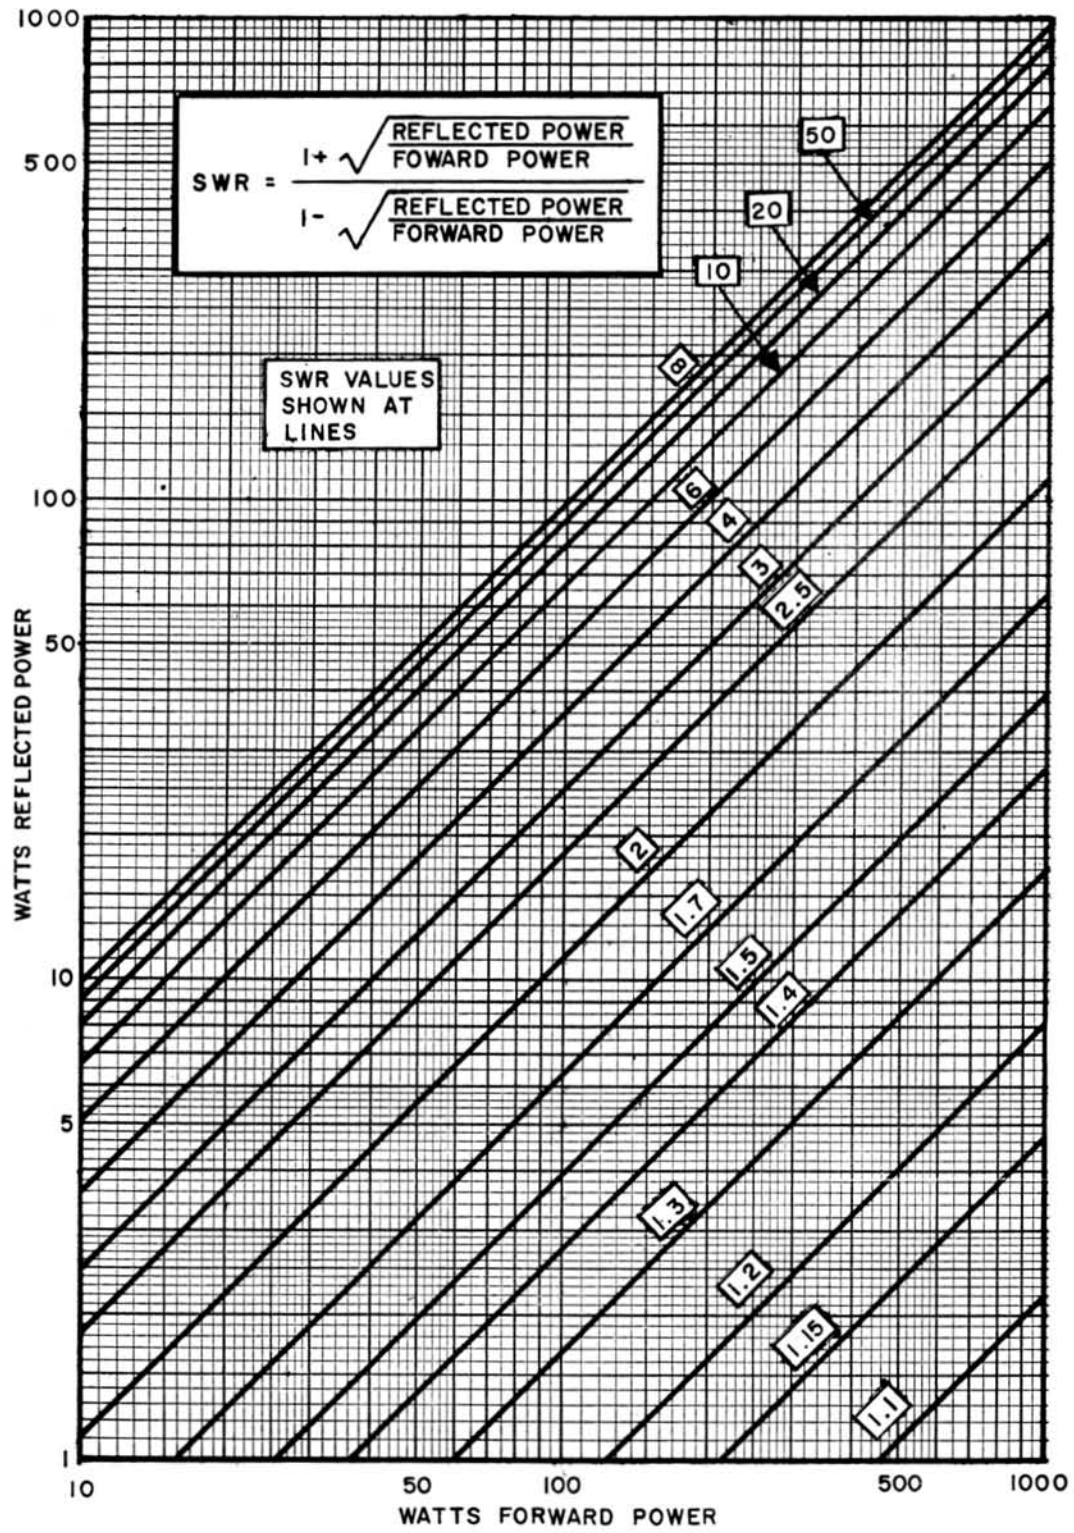

Figure 5. VSWR Chart
d. Switch to the REFLECTED 2000 scale. Unless the antenna or load is perfectly matched (52 ohms, resistive), the meter will indicate reflected power. The reflected power indication will always be less than the forward power indication. If the indication is less than 200 watts, switch to the REFLECTED 200 scale. Record the indication. Use the recorded indications and figure 5 to determine vswr. To use the vswr chart of figure 5, multiply the WATTS REFLECTED POWER along the left side and the WATTS FORWARD POWER along the bottom by a factor of 10. The swr values on the lines remain the same. This allows the chart to be used for forward and reflected power readings up to 10,000 watts.